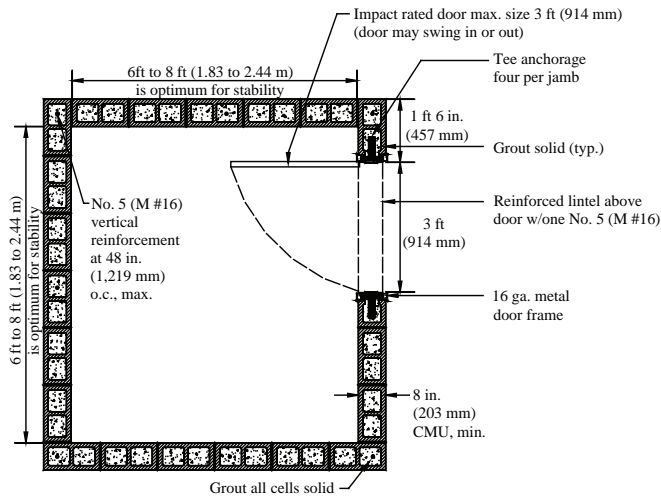

Figure 1
A typical concrete masonry storm shelter design is shown in Figure 1. Several concrete masonry systems have been successfully tested to withstand a 15 lb (6.8 kg) 2 x 4 (39 x 89 mm) propelled at 100 mph (45 m/s) (ref. 1,4,5). Solidly grouted 8-in (203 mm), concrete masonry walls with No. 5 (#16 M) reinforcement at 48 in. (1219 mm) on center, with one horizontal No. 5 (#16 M) min. at the top of the wall and in the footing or bottom of the wall, can withstand these conditions. All weight classes of concrete masonry meet the strength and impact-resistance requirements. The engineer can use the masonry weight in the shelter design to resist overturning. Regardless of the concrete masonry density, the weight of the grouted masonry assembly provides increased overturning resistance compared to low-mass systems.